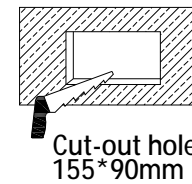

Fig. 5
1. Create a cut-out hole in the appropriate position on the ceiling surface (refer to Fig. 5).